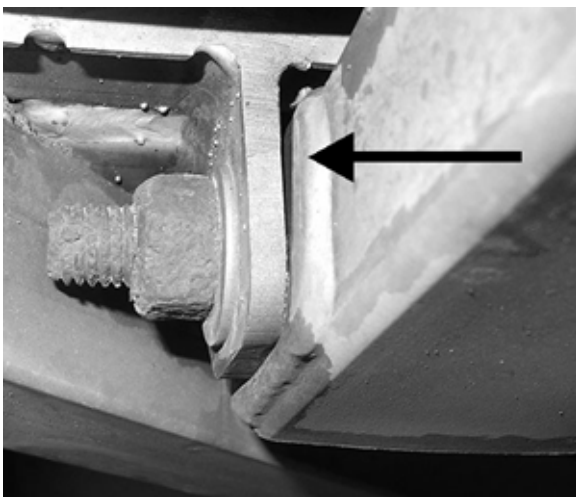

FIGURE 22: VISIBLE GAP ON TRANSVERSAL SCREW JOINT
3. On the transversal screw joints (Figure 22) any visible gap between cradle support tubing and vehicle frame mounting lugs **is not acceptable**.
3. On the transversal screw joints (Figure 22) any visible gap between cradle support tubing and vehicle frame mounting lugs is not acceptable.